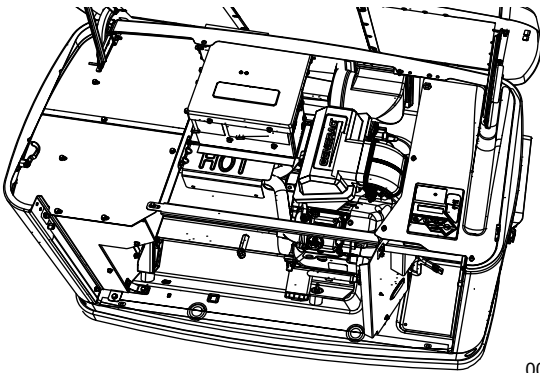

Figure 2-4. Inspect for Damage
7. See Figure 2-4. Once the lid is open, remove the front access panel by lifting it up and out. Also remove the black panel, indicated by the arrow, over top of the customer connection area.